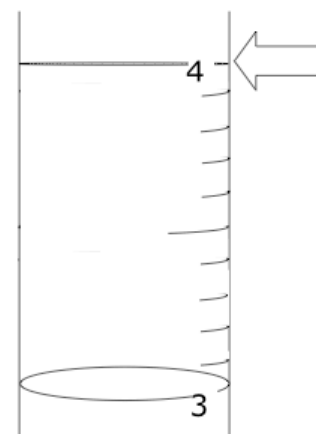

Figure 1
**Eye Level at Labeled Line:** If the meniscus is at or very near a labeled line, you can determine that you are holding the cylinder properly if the labeled line appears as a straight line. That is to say, the front of the labeled line, which is closest to you will completely overlap the line that wraps around the back side of the cylinder, as in the 4 mL line in Figure 1.